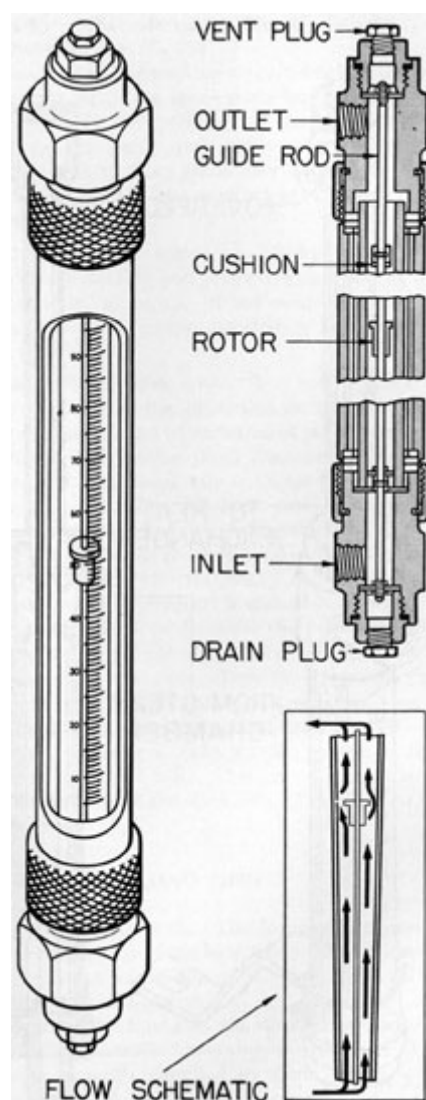

Figure 7-2. Rotameter.
**7C2. The rotameter.** Two of these devices are used for each distilling unit (Figure 7-2). One is inserted in the incoming sea water line into the heat exchanger to measure the rate of the feed flow, which is normally 70 to 90 gph. The other is in the outlet pipe from the heat exchanger to the brine receiver to measure the rate of overflow,